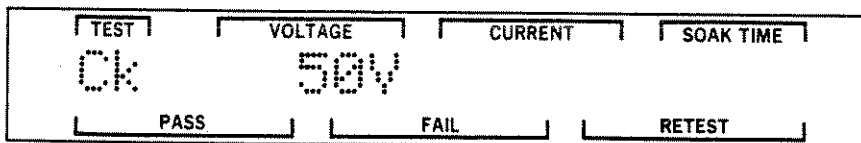

Figure 5-17. Check Voltage Screen
STEP 6. Set the Check voltage (0, 25, or 50 VDC) that will be used in normal testing. Press the UP or DOWN pushbuttons until Ck is seen at the left of the display. Press the RIGHT pushbutton once to display only the Check voltage. Press the INC or DEC pushbutton to set the desired voltage. Refer to Figure 5-17 for an example of this screen.